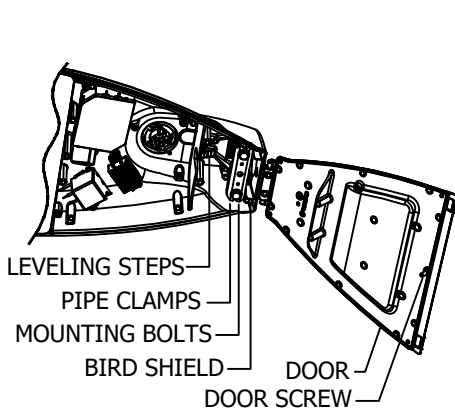

FIGURE 4
- 1. **BIRD SHIELDS:** THE BIRD SHIELD BEHIND THE PIPE CLAMP HAS A 1 1/4" (1.660 OD) OPENING. REMOVE SHIELD IF LARGER PIPE IS USED. SEE **FIGURE 4**.
- 2. **MOUNTING ARM:** UNFASTEN, OPEN AND REMOVE DOOR FROM HINGE CRADLE. ADJUST PIPE CLAMP OPENING SLIGHTLY LARGER THAN PIPE SIZE. INSERT MOUNTING ARM THROUGH BIRD-SHIELD (IF USED) AND INTO THE LUMINAIRE UNTIL IT HITS THE LEVELING-STEPS EXTENDING FROM TOP OF HOUSING. SEE **FIGURE 4**.
- IF DOWNWARD TILT IS NEEDED, EXTRACT THE MOUNTING ARM FROM LUMINAIRE TO SIT ON THE REARWARD STEPS. SEE **FIGURE 4**.